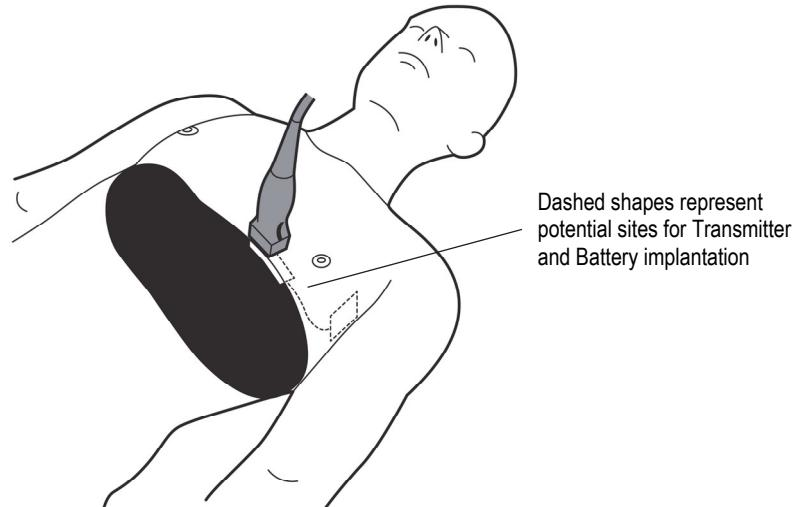

Figure 13: Place the cardiac probe over the potential site for Transmitter implantation
**15A.** Place the cardiac probe over the potential site for Transmitter implantation. The probe should be oriented with the fan beam parallel with the direction of the ICS with the probe normal to the curvature of the chest wall. See Figure 13.